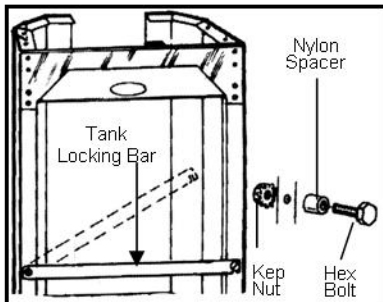

Fig. 1
**A.** In box #2, find and attach the LP Tank Locking Bar across the back of the column. This spreads and holds the correct spacing at the back of the column regardless of the type of gas that will be used. Use the (2) 3/4" Hex Bolts, Nylon Lock Bar Spacers and Kep Nuts to fasten the lock bar in place. (Fig. 1)
**A.** In box #2, find and attach the LP Tank Locking Bar across the back of the column. This spreads and holds the correct spacing at the back of the column regardless of the type of gas that will be used. **(Fig. 1 Page 8)**